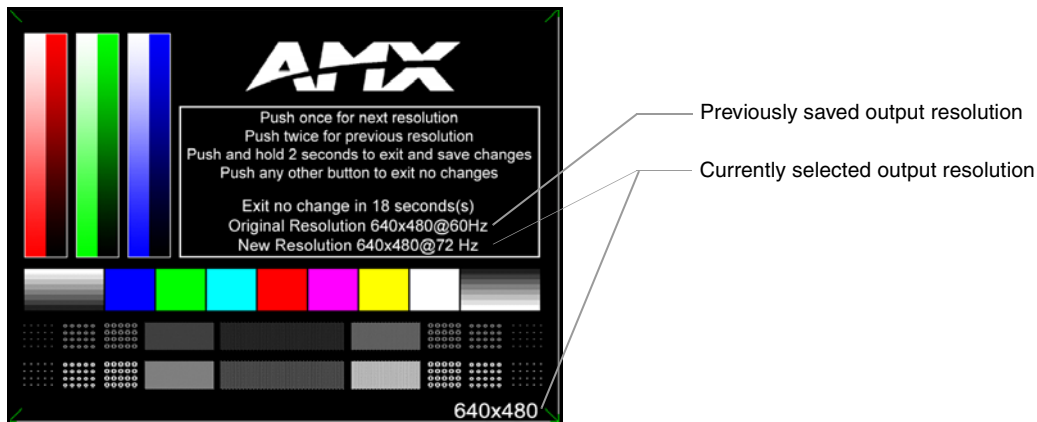

FIG. 20 Resolution Setup page (showing comparative resolutions)
1. Press the RESOLUTION button on the front panel. This single press opens the Resolution Setup page (FIG. 20).